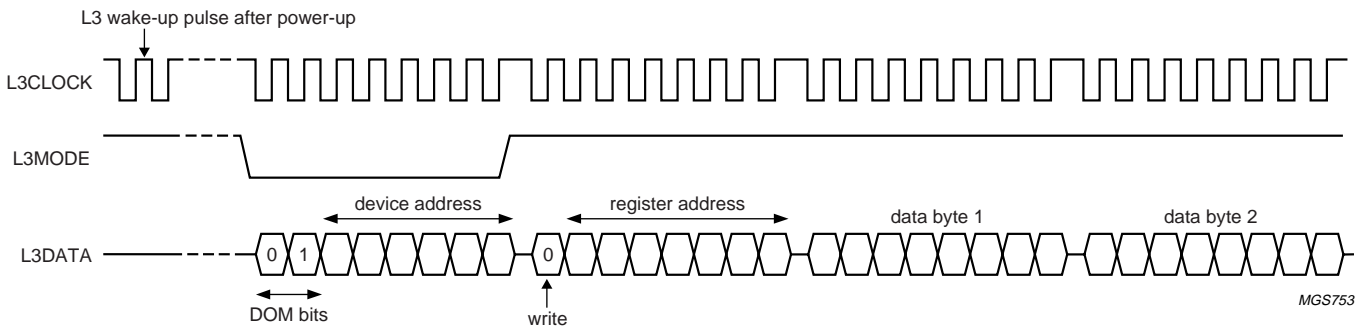

Fig.6 Data write mode (for L3 version 2).
The address mode is used to select a device for a subsequent data transfer. The address mode is characterized by L3MODE being LOW and a burst of 8 pulses on L3CLOCK, accompanied by 8 bits (see Fig.6).
**Remark:** when the device is powered up, at least one L3CLOCK pulse must be given to the L3 interface to wake-up the interface before starting sending to the device (see Fig.6). This is only needed once after the device is powered up.
1. Addressing for write data: bit 0 is logic 0 indicating a write action to the destination register, followed by bits 1 to 7 indicating the register address (see Fig.6).
The data write mode is explained in the signal diagram of Fig.6. For writing data to a device, four bytes must be sent (see Table 6):